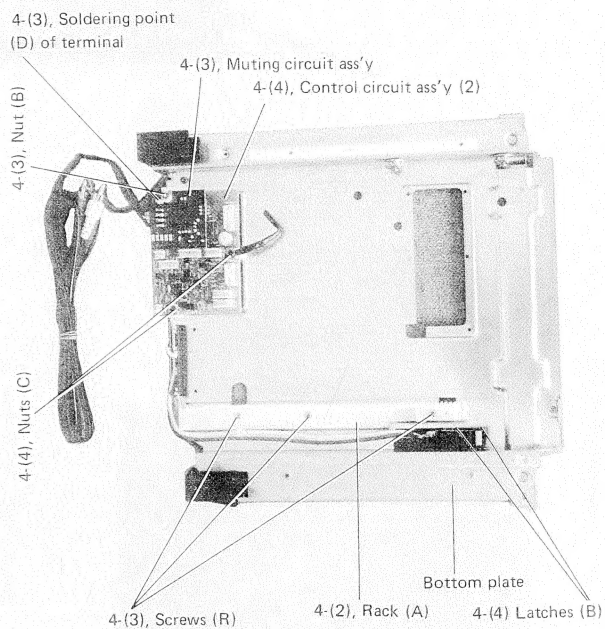

Fig. 11
### 4). Disassembly of bottom plate (See fig. 11)
- 4. Releasing latch (B) which holds micro switch, and then push the switch by a small stick or screw driver through square hole so that micro switch and lever can be removed. (See fig. 11)
- (3) Dismount muting circuit ass'y. (See fig. 11)
- (4) Dismount control circuit ass'y (2). (See fig. 11)